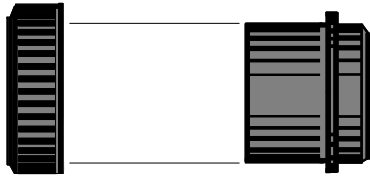

Figure 2
2. **NOTE:** This new LeafVac comes with two union fittings (2 pieces each – see Figure 2) allowing the unit to have either a 2", 2 ½" or 3" inlet and outlet. (See Figures 2, 3, 4 and 5 on the back of this page for gluing and configuration instructions.)
2. The unions are two pieces each, the *union locking nut* and the *union coupler*. The coupler is designed to accept 2 1/2" pipe or a 3" coupling or fitting (see Figure 2).